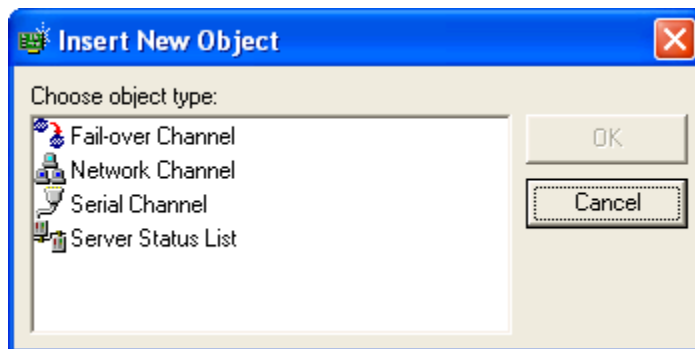

Figure 19 - Insert New Object Window
The **Insert New Object** window (Figure 19) displays a different set of options depending on the type of object selected and the types of objects already configured under it.
- The **Insert New Object** window (Figure 19) appears.
2. The **Insert New Object** window (Figure 19) appears.
5. The **Create New** window appears (Figure 19).